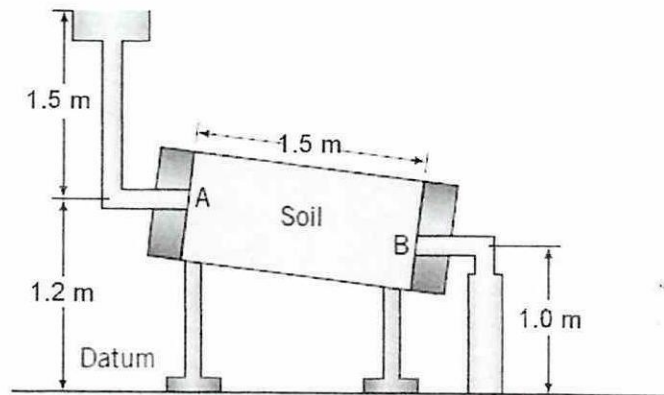

Figure Q5.1 Flow of water through soil tube.
- (b) A soil sample 12 cm in diameter is placed in an inclined tube 1 m long as shown in **Figure Q5.1**.